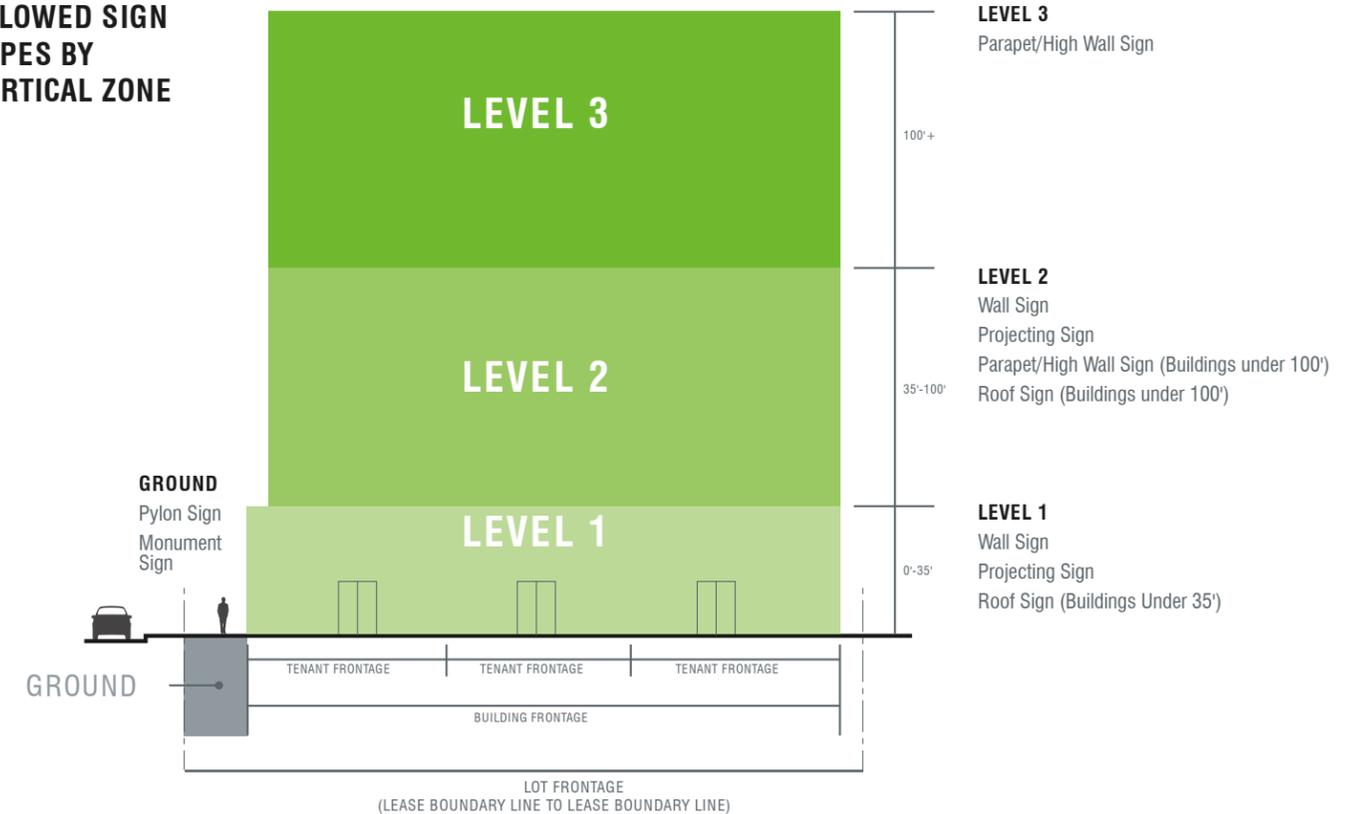

Figure 1.1: Vertical Sign Zones & Frontage Delineations
The maximum allowed combined sign area on a building elevation is four (4) square feet of signage per linear foot of lot frontage with the lot frontage being measured along the lot line on which the building elevation is located. Plaza facing elevations that are visible from sidewalks and streets shall be treated as its own separate frontage and will not be combined with other street frontage calculations. Unused allowable square footage is not allowed to be transferred to a different building elevation within the development parcel. Refer to Figure 1.1 for frontage delineation information.